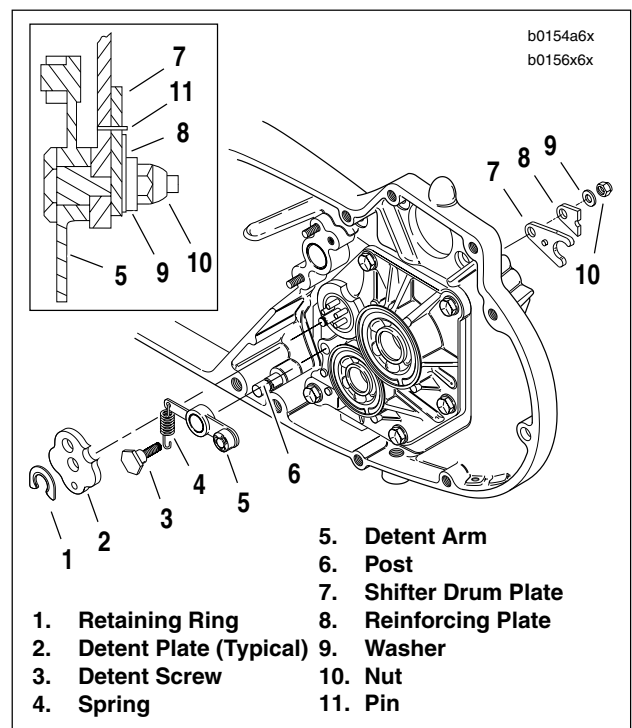

Figure 6-31. Detent Plate Mounting
See Figure 6-31. Detent plate (2) and retaining ring (1) are not installed at this time. These parts are installed during transmission installation after the final shifter pawl adjustment is made. See 6.13 TRANSMISSION INSTALLATION AND SHIFTER PAWL ADJUSTMENT.
- a. At the inside of the access door, place the shifter drum plate (7) in the groove of the drum shaft. See inset Figure 6-31.
- b. Correctly align reinforcement plate (8) with the pin pressed in the shifter drum plate (7).
- c. Insert detent screw (3) through detent arm (5), access door, shifter drum plate (7), reinforcing plate (8) and washer (9).
- d. Thread nut (10) on detent screw. Tighten to 13-17 ft-lbs (18-23 Nm).